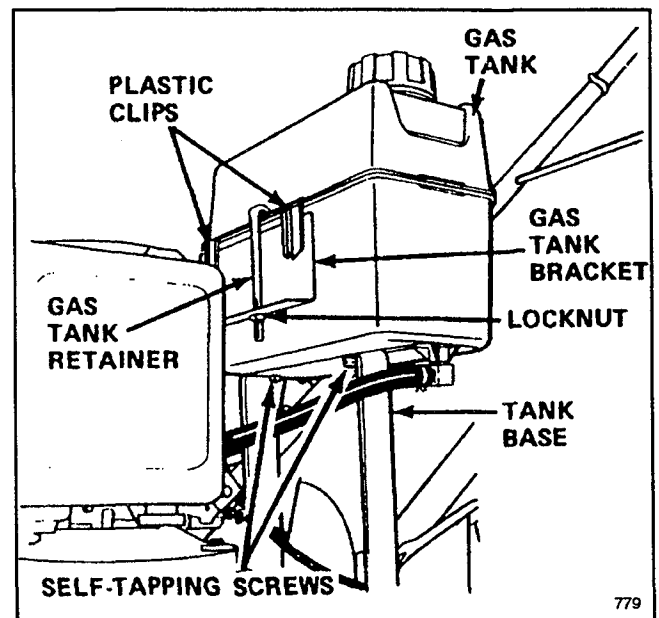

Figure 2
2. Hook the plastic clips on the rear of the gas tank onto gas tank bracket (Fig. 2).
3. Secure gas tank to tank base with the (2) self-tapping screws (Fig. 2). Do not overtighten screws.
4. Hook gas tank retainer onto gas tank and slide end of retainer into hole in tank bracket. Secure retainer to tank bracket with locknut (Fig. 2). Do not overtighten.